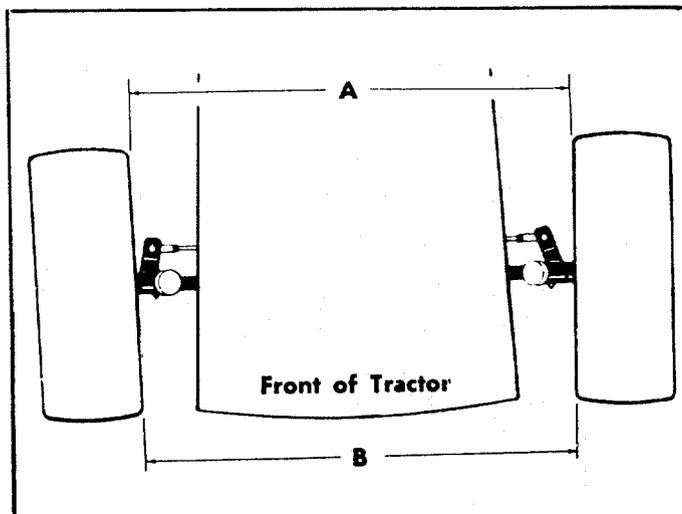

FIGURE 22. TOE-IN DIAGRAM
- A.) To increase dimension "B", screw the rod into tie rod end. See figure 22.
- B.) To decrease dimension "B", unscrew tie rod from tie rod end. See figure 22.